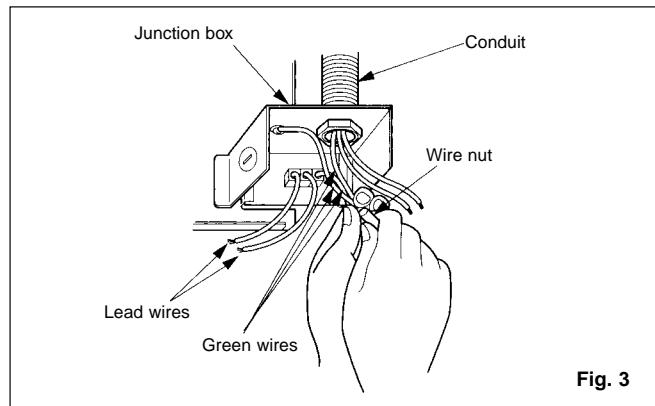

Fig. 3
4. Remove junction box cover and secure conduit to junction box knockout hole. (7/8 inch) (Fig. 3)
ing fan wires (Fig. 3): black to black; white to white;